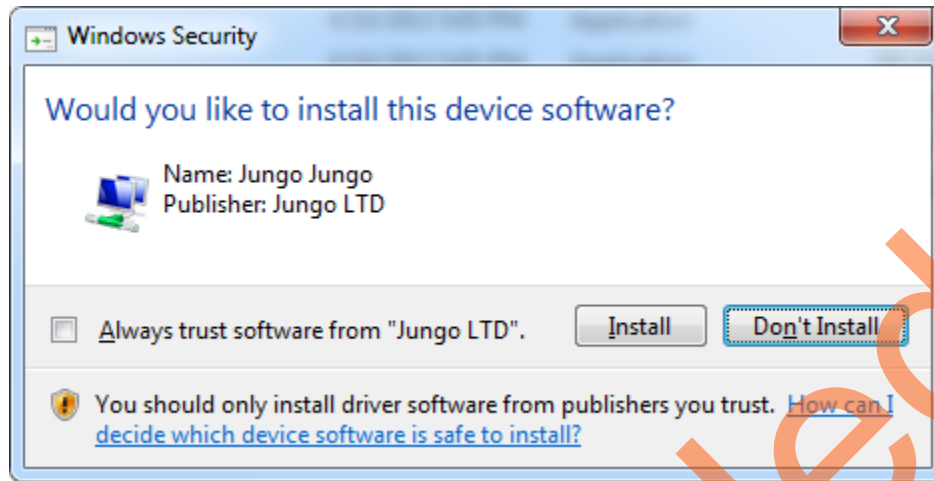

Figure 18 • Jungo Driver Installation
3. Click **Install** if the window is displayed as shown in Figure 18.